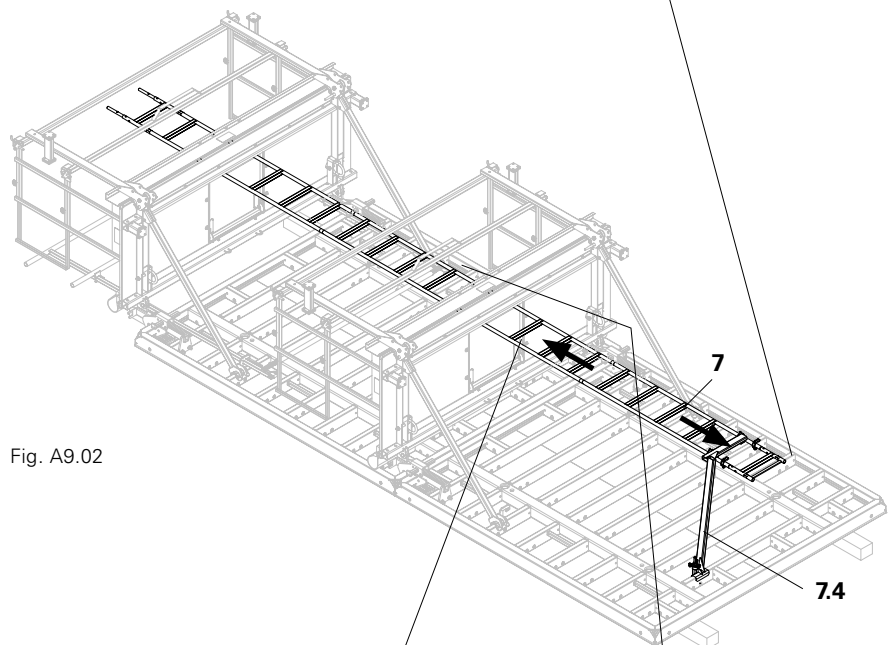

Fig. A9.02
3. Secure Ladder to the Ladder Connector MXP (7.4) with connectors. (Fig. A9.02 + A9.02a)